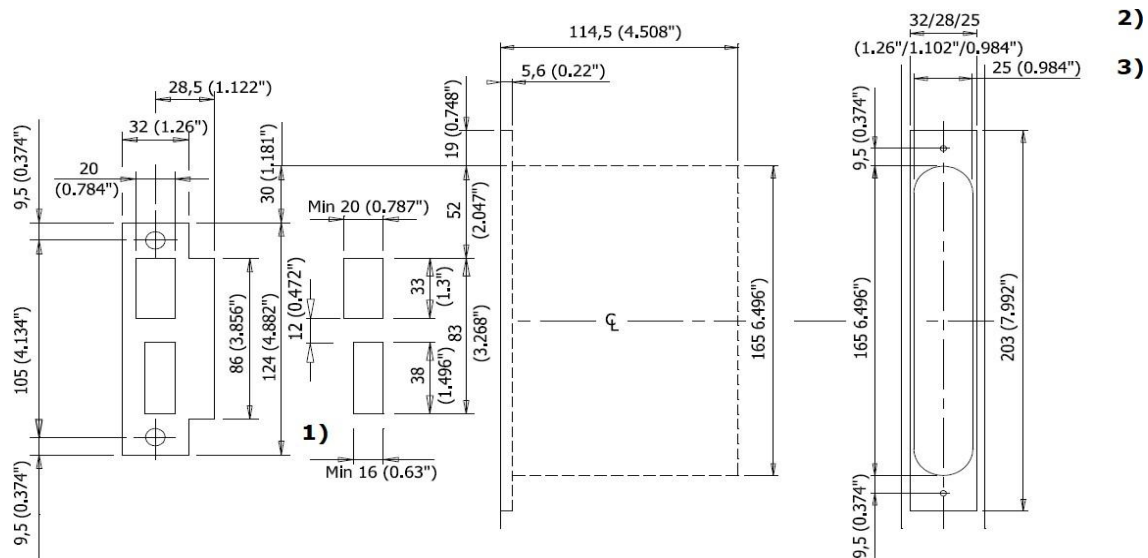

Figure 1: Positioning of ANSI DB standard strike plate. Note the dimension 30 mm (1.181'') from the edge of the lock case to the edge of the strike plate.
Before mortising for the strike plate, make sure to align the side template vertically and horizontally according to Figure 1 (ANSI DB). Use the center line (CL) for the lock case as a reference; CL is important for the positioning of the lock case, strike plate and escutcheon onto the doors. Horizontally, the B- or C- dimension will apply depending on the direction of the door and the center/ rebate orientation.